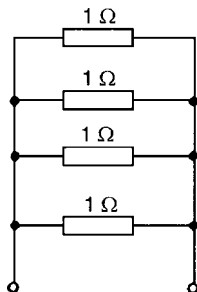

Figure 5.16
- (a) **All four in parallel** (see Fig. 5.16), since